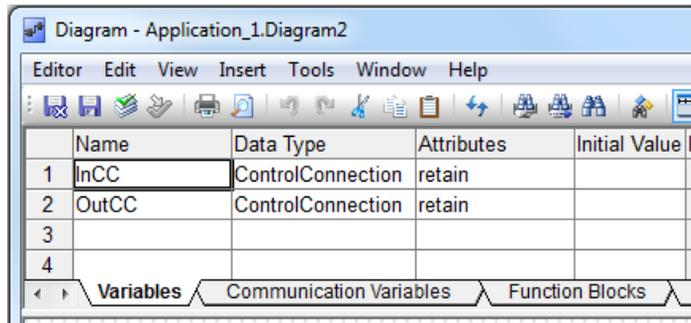

Figure 43. Variables for connecting the CCTemplate object in the diagram
3. In the declaration pane of diagram editor, declare two variables (InCC and OutCC of ControlConnection) according to Figure 43.